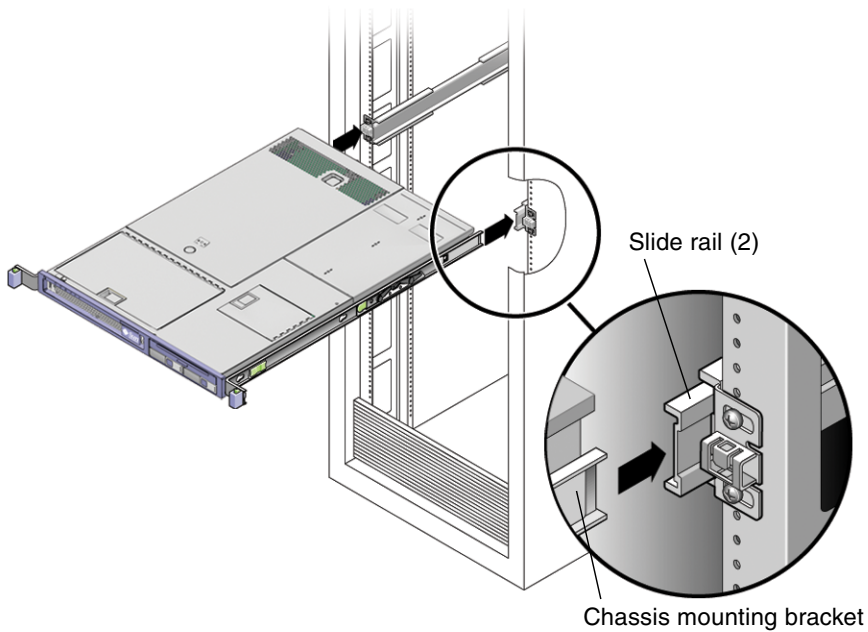

FIGURE 3-43 Returning the Server to the Rack
2. Place the ends of the chassis mounting brackets into the slide rails (FIGURE 3-43).